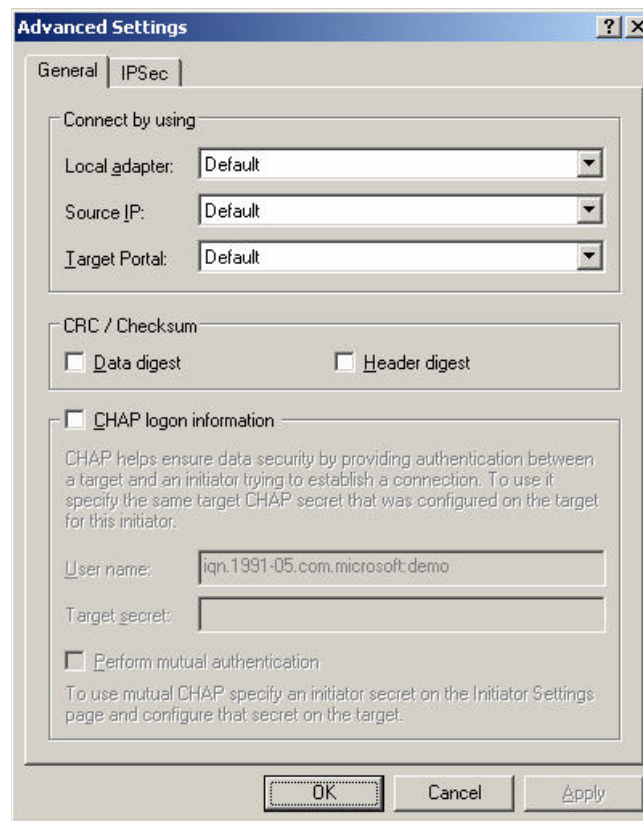

Figure D.6
7. Click **“Advance...”** if CHAP information is needed. Please see Figure D.6.